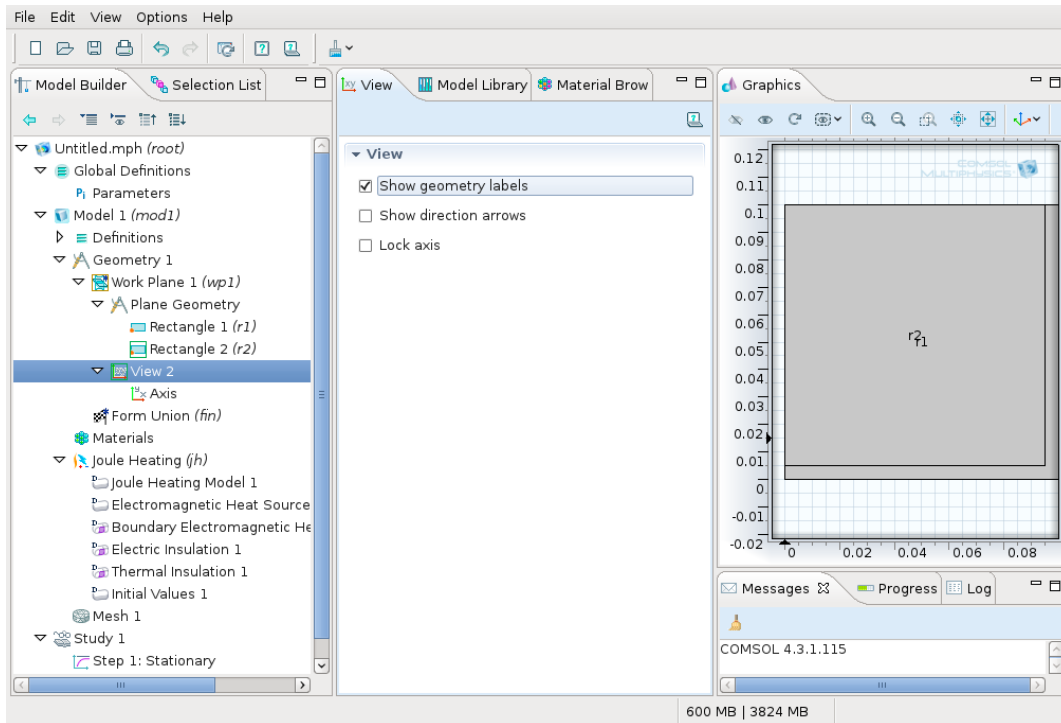

Figure 10: Showing the labels.
***Model Builder*** → ***Geometry 1*** → ***Work Plane*** → ***Plane Geometry*** → ***View 2: Show geometry labels = v*** (Fig. 10).